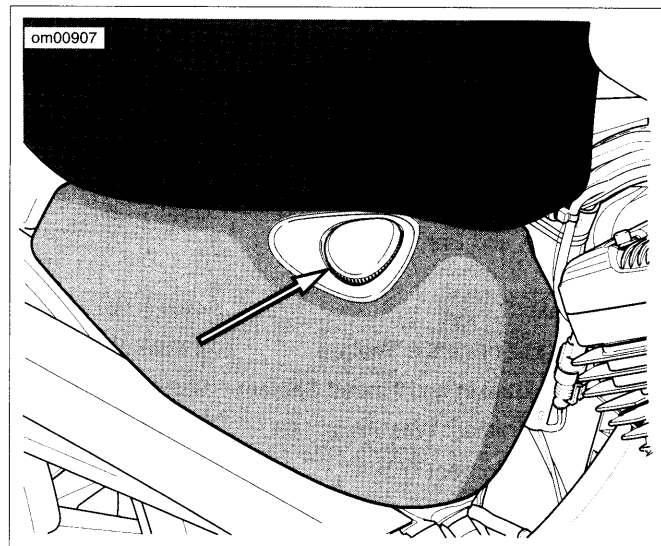

Figure 1-1. Filler Cap/Dipstick Location (XL Model Shown)
2. See Figure 1-1. Remove filler cap from oil tank on right side of vehicle.